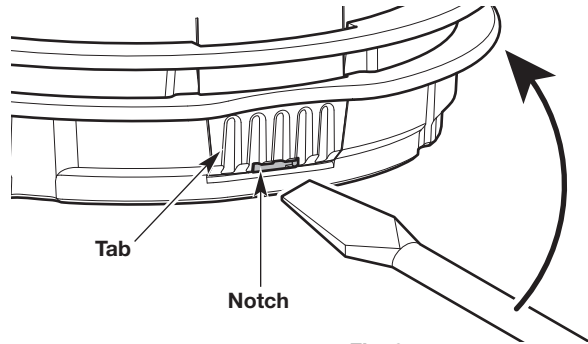

Fig. 8
- a. Insert a flat-head screwdriver into the notch on the tab (Fig. 8).
- b. Gently tilt the screwdriver up and hold it in place (Fig. 8).